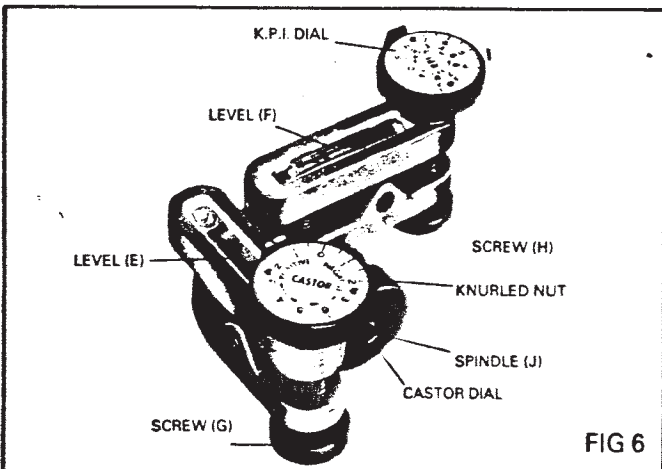

FIG 6
Remove turntable locking pins and adjust turntable scales until pointer is at zero. Fit the CG/5 gauge, with castor dial on left, to spindle 'J' and secure with knurled nut (Fig. 6). The gauge should be set approximately horizontal.
Steer the wheel to be checked 20° IN, i.e. Right hand wheel steered to left and Left hand wheel steered to right. Set Castor and King Pin inclination dials to zero at pointer then centre the bubbles in the Castor and King Pin inclination spirit levels (E) and (F) respectively by turning lower knurled screws (G) and (H) (Fig. 6).